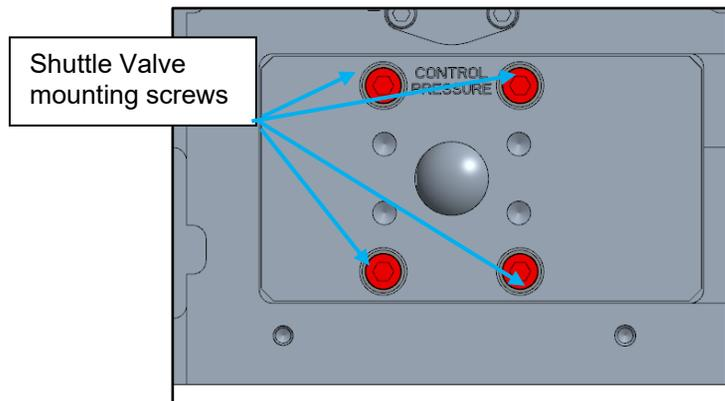

Figure 4-3. VariStroke Shuttle Valve Retaining Screws
4. Loosen and remove all four screws retaining the shuttle valve using **3/8 in** hex head wrench (Figure 4-3).